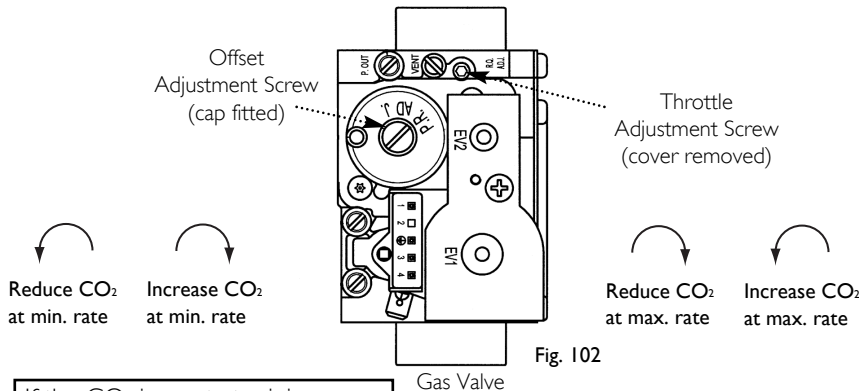

Fig. 102
8. It is possible to alter the CO₂ by adjustment of the gas valve. Remove the plastic cover from the Throttle Adjustment Screw. At maximum rate the Throttle Adjustment Screw should be turned, using a suitable hexagon key, until the correct reading is obtained (Fig. 102). Turning clockwise will reduce the CO₂. Anticlockwise will increase the CO₂.
10. With the boiler on minimum, the Offset Adjustment Screw must be altered, using a suitable hexagon key, after removing the cap (Fig. 102). Turning anti-clockwise will reduce the CO₂. Clockwise will increase the CO₂.